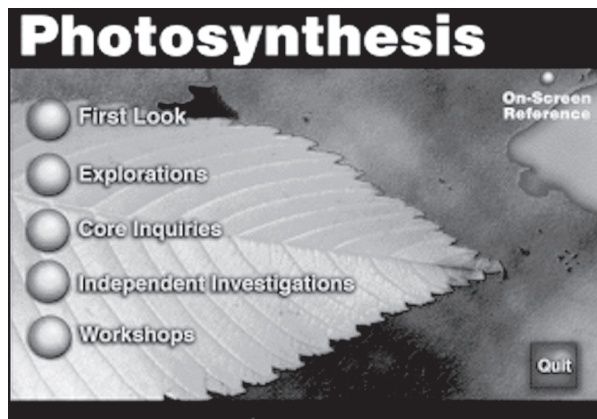

Figure R6.2 | Photosynthesis Main Menu
D. You are at the main menu (Figure R6.2) and can now choose to: